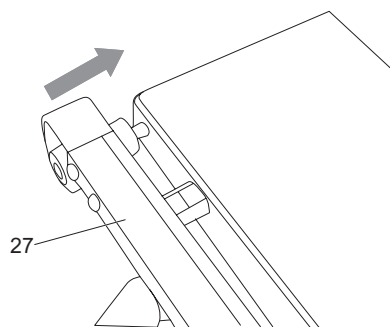

Fig. 8
- > Slide the guard arm and cutter guard assembly (27) over the locating pivot pin. (Fig. 8)